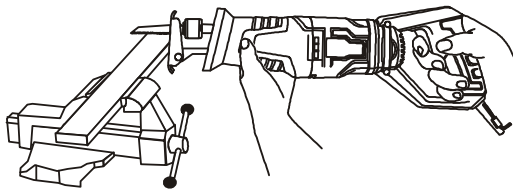

Fig. 4
4. Hold the saw away from your body and in front of you (Fig. 4).